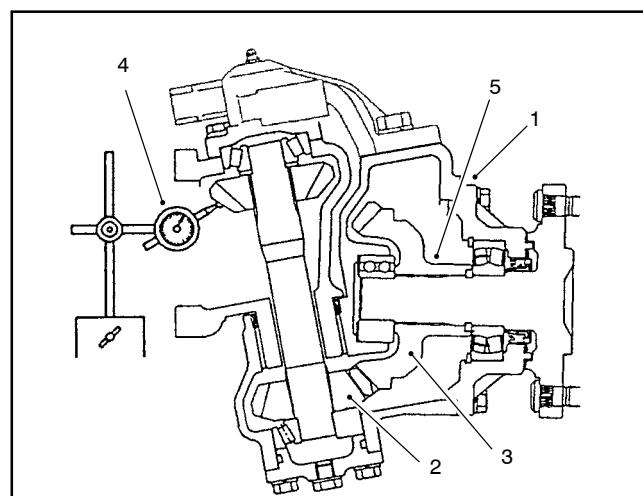

Figure 20
9. Remove the bevel gear case/axle case assembly from the axle support. Coat a new O-ring with grease and temporarily install the axle cover assembly. Position a dial indicator at the teeths center. Prevent the axle from turning and measure the lower bevel gear to axle gear backlash (Fig. 20).